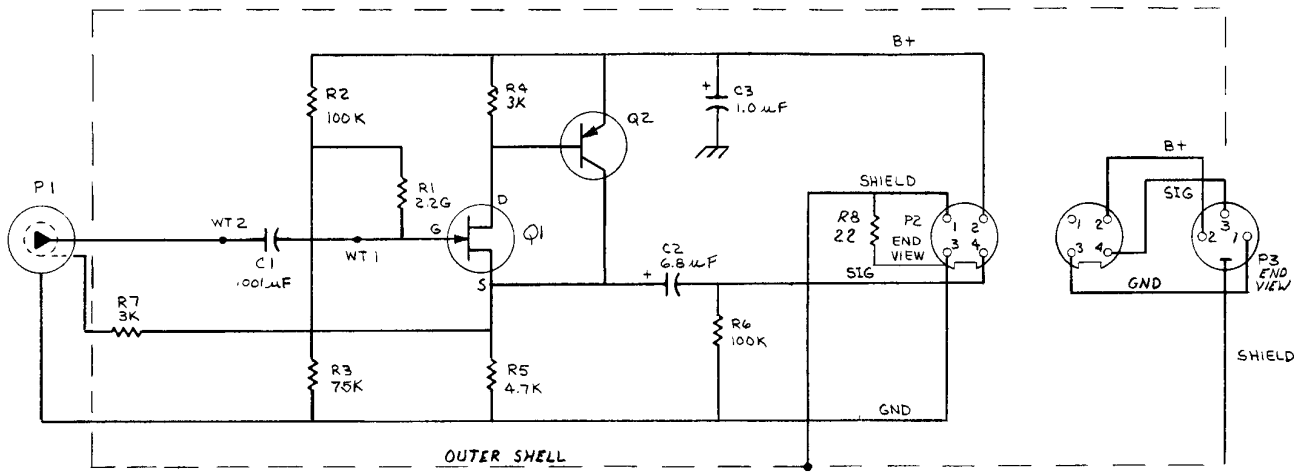

Figure 6-4. Schematic circuit diagram for the 1972-9600 Preamp/Adaptor.
An inexpensive interface between a GR ceramic or electret microphone and the measuring instrument is the 1972-9600 Preamplifier/Adaptor (Figure 6-1). This simple, easy-to-use preamplifier is designed to satisfy less-demanding requirements than those met by the 1560-P42 Preamplifier: It has reduced output voltage and current capabilities, offers only unity gain, and does not supply the polarizing voltage required to operate condenser microphones. In effect, the 1972-9600 serves as an impedance converter for ceramic microphones and vibration pickups. It provides a nominal input impedance of $2.2\text{ G}\Omega$ in parallel with less than 3 pF . It has an output impedance of approximately $10\ \Omega$. The schematic diagram is given in Figure 6-4.
- c. The voltage at the FET (Q1) source should be half the supply voltage plus a few tenths of a volt, as shown in Table 6-1. If it is not, the FET or Q2 or a related component is probably defective. Do not measure the gate voltage on Q1 (high impedance). The voltage at TP1, Figure 6-4, should be half of the supply voltage.